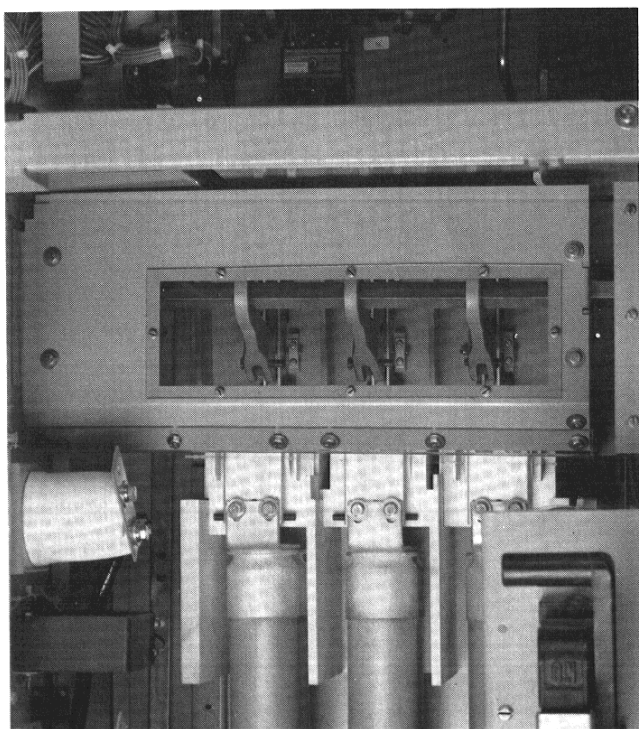

Figure 33. Isolator switch barrier showing bolts to be removed.
8. Detach the switch barrier with the viewing window by removing the ten bolts, Fig. 33. Pull the barrier out of the enclosure.